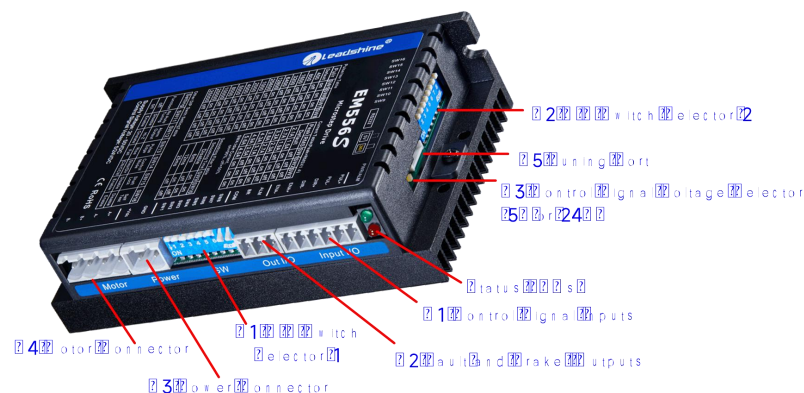

Figure 2 Connectors, DIP switches, and LED locations
(4) Single pulse (step & direction) or double pulse (CW/CCW) is set by DIP Switch SW14
(5) DIR signal requires advance PUL signal minimum 5 μs in single pulse mode
(6) The activated edge of PUL and DIR is set by DIP Switch SW13
(7) The factory setting of control signal voltage is 24V, must need to set S3 (figure 2) if it is 5V
(4) The default control signal voltage is 24V, to set S3 (figure 2) if it is 5V
(5) Enable time to be at least 200ms
The DM556 can accept differential or single-ended control signals (pulse, direction, and enable) in open-collector or PNP connection through the P1 connector (figure 2). It is recommend to add an EMI line filter between the power supply and the drive to increase noise immunity for the drive in interference environments.
The first 8-bit is located on the side (DIP switch selector 1 in Figure 2) and used to configure settings of micro step resolution, output current, and motor standstill current as shown below, the factory setting of SW1-SW8 is OFF, OFF, OFF, OFF, OFF, OFF, ON, ON.
The second 8-bit DIP switch is located on the top (DIP switch selector 2 in figure 2), and used to configure settings of control command filtering time, motor auto-configuration, fault output impedance, pulse active edge, control mode, lock shaft, and self-test as shown below, the factory setting of SW1-SW8 is OFF, OFF, OFF, ON, ON, OFF, OFF, OFF.
The Third 1-bit selector is located on the top (DIP switch selector 3 in figure 2), used to configure the voltage of control signals. For the safety of optically coupled, the factory setting is 24V, which no need to connect 2K resistors like the old drives, making it easier to use. When the voltage of the control signal is 5V, the S3 must be set to 5V, otherwise, the motor won't work.